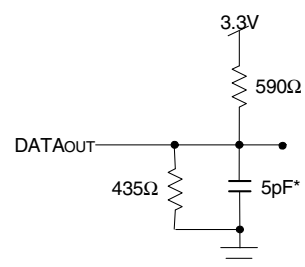

Figure 2. Output Test Load (for tLZ, tHZ, tWZ, tOW)
1. Transition is measured 0mV from Low or High-impedance voltage with Output Test Load (Figure 2).
- Transition is measured 0mV from Low or High-impedance voltage with Output Test Load (Figure 2).